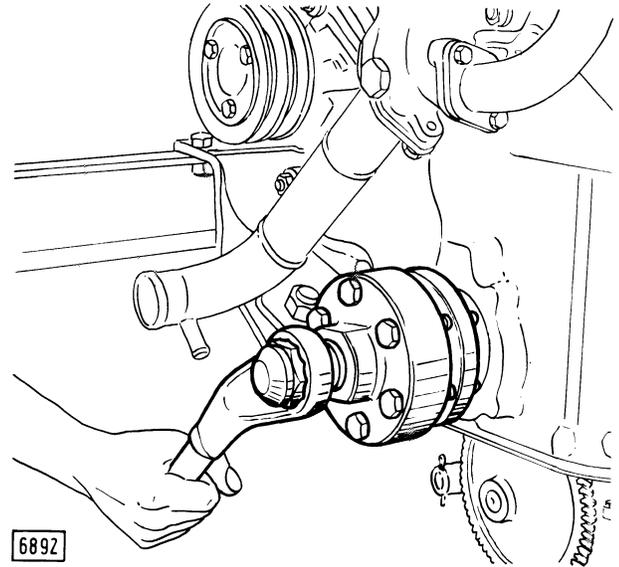

Fig. 22 - Removing crankshaft damper hub using puller 75291504.
- Remove the crankshaft vibration damper hub using puller **75291504** (Fig. 22).